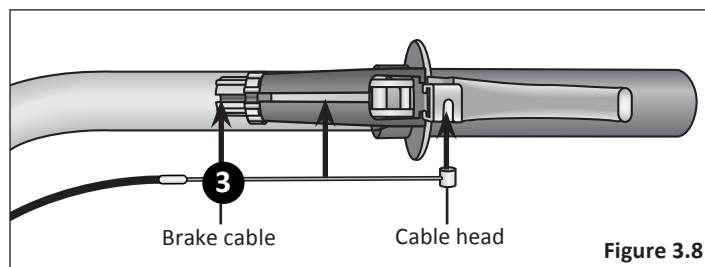

Figure 3.8
- 3 Slide the brake cable through the slots and place the cable head into the brake lever. **Figure 3.8**